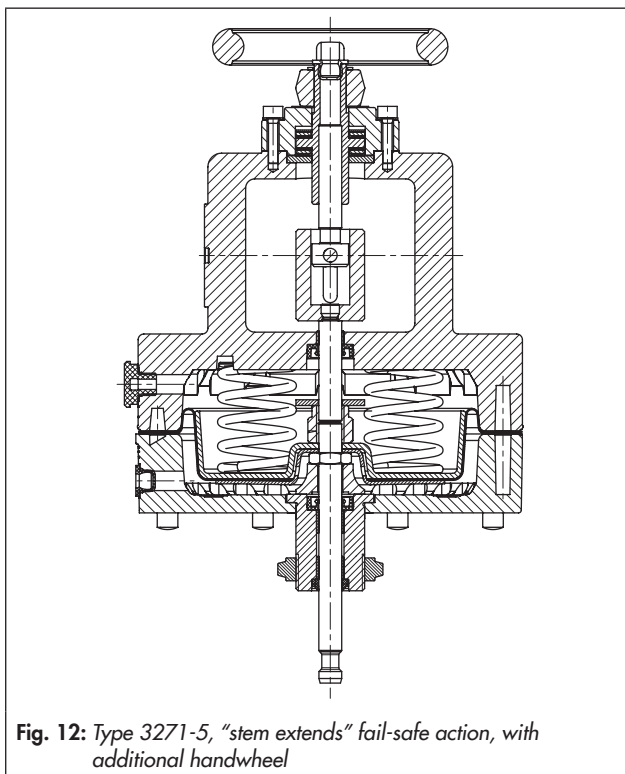

Fig. 12: Type 3271-5, "stem extends" fail-safe action, with additional handwheel
- **Type 3271-5 · 120 cm² actuator area**, die-cast aluminum housing (Fig. 4), optionally with additional handwheel (Fig. 12)